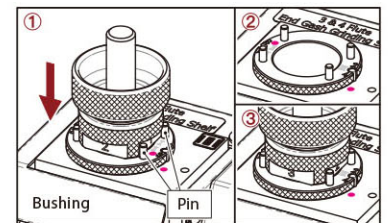

Fig. 10-2
2. 4 Flute End Gash Grinding (II) (Fig. 10-2)
- ① Insert the chuck set into the bushing on the Shelf (II), align Slot No.1 to the two pins where marked as No.(1-3), push the chuck set gently until the grinding noise stops. Turn the chuck set to grind the Slot No.3 in the same way, then take the chuck set out.
- ② Turn the bushing to No.(2-4), align No.(2-4) to the pin on the shelf, then insert it to the end.
- ③ Insert the chuck set into the bushing, align Slot No.2 to the two pins where marked as No.(2-4), push the chuck set gently until the grinding noise stops. Turn the chuck set to grind the Slot No.4 in the same way.